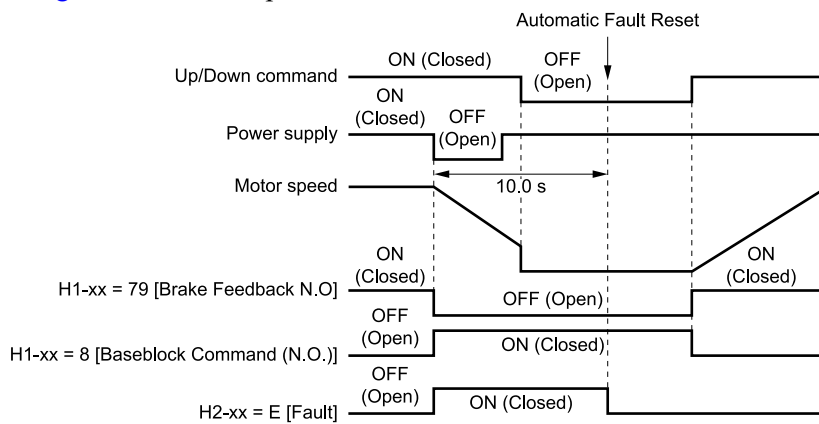

Figure 12.53 Uv1 Automatic Fault Reset Sequence
- If the momentary power loss occurs when L5-06 = 1, the drive always repeats the Automatic Fault Reset sequence as shown in Figure 12.53. If the power loss occurs, use batteries to do Rescue Operation.